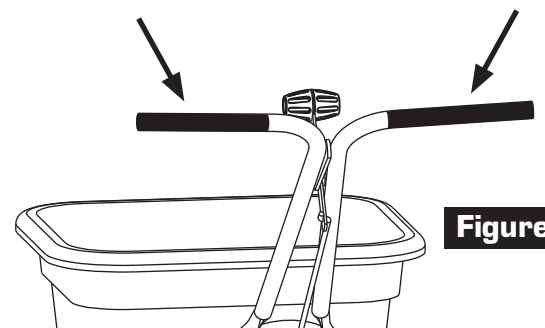

Figure 8
10. Install handle grips, Figure 8.